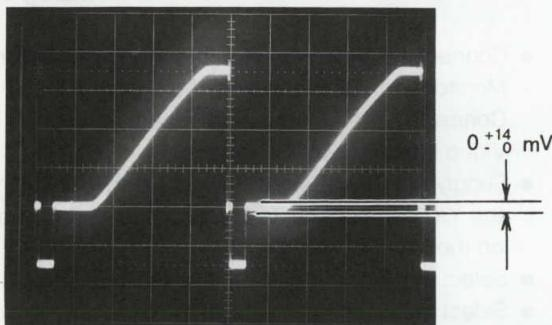

Fig. 4-8
- Adjust VR29 so that the black level of the RAMP signal becomes 0 ± 14 mV as shown in the Fig. 4-8.